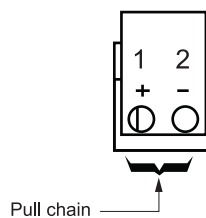
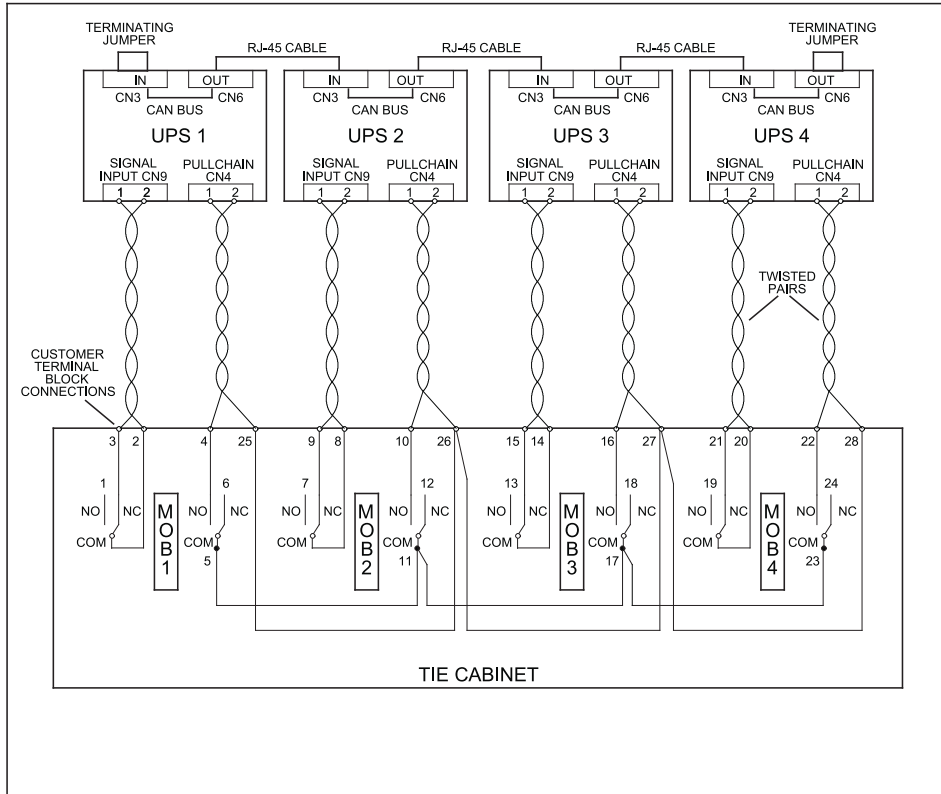

Figure 4-11: Pull chain terminal block connector assignments
Figure 4-12: Parallel UPS control wiring
3. To locate the appropriate terminals and review the wiring and termination requirements, see *Chapter 3.2.3 UPS system interface wiring preparation* on page 22, *Table 4-2, Figure 4-7: Interface terminal locations* on page 36, *Figure 4-8: Interface terminal detail (terminal cover removed)* on page 36, and *Figure 4-11*.
- Route and install RJ-45 Controller Area Network (CAN) cables between the UPS cabinets. See *Figure 4-8: Interface terminal detail (terminal cover removed)* on page 36 and *Figure 4-12: Parallel UPS control wiring* on page 41 for wiring information.
- Route and install pull chain wiring between the UPS cabinets and cabinet MOBs. See *Figure 4-8: Interface terminal detail (terminal cover removed)* on page 36, *Figure 4-11*, and *Figure 4-12: Parallel UPS control wiring* on page 41 for wiring information.